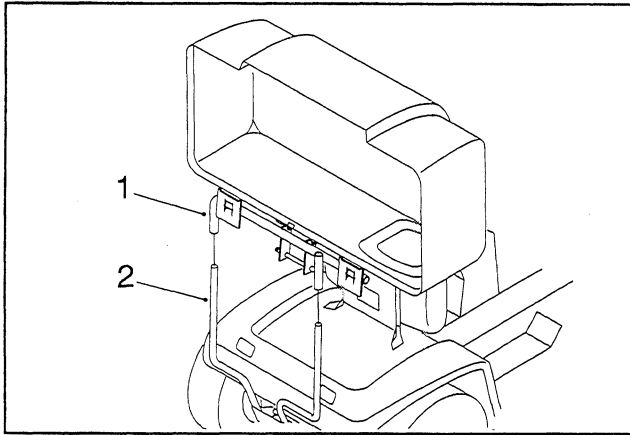

Figure 10
2. Tilt the tractor seat forward. Slide the bagger top onto the quick-attach bracket (Fig. 10).